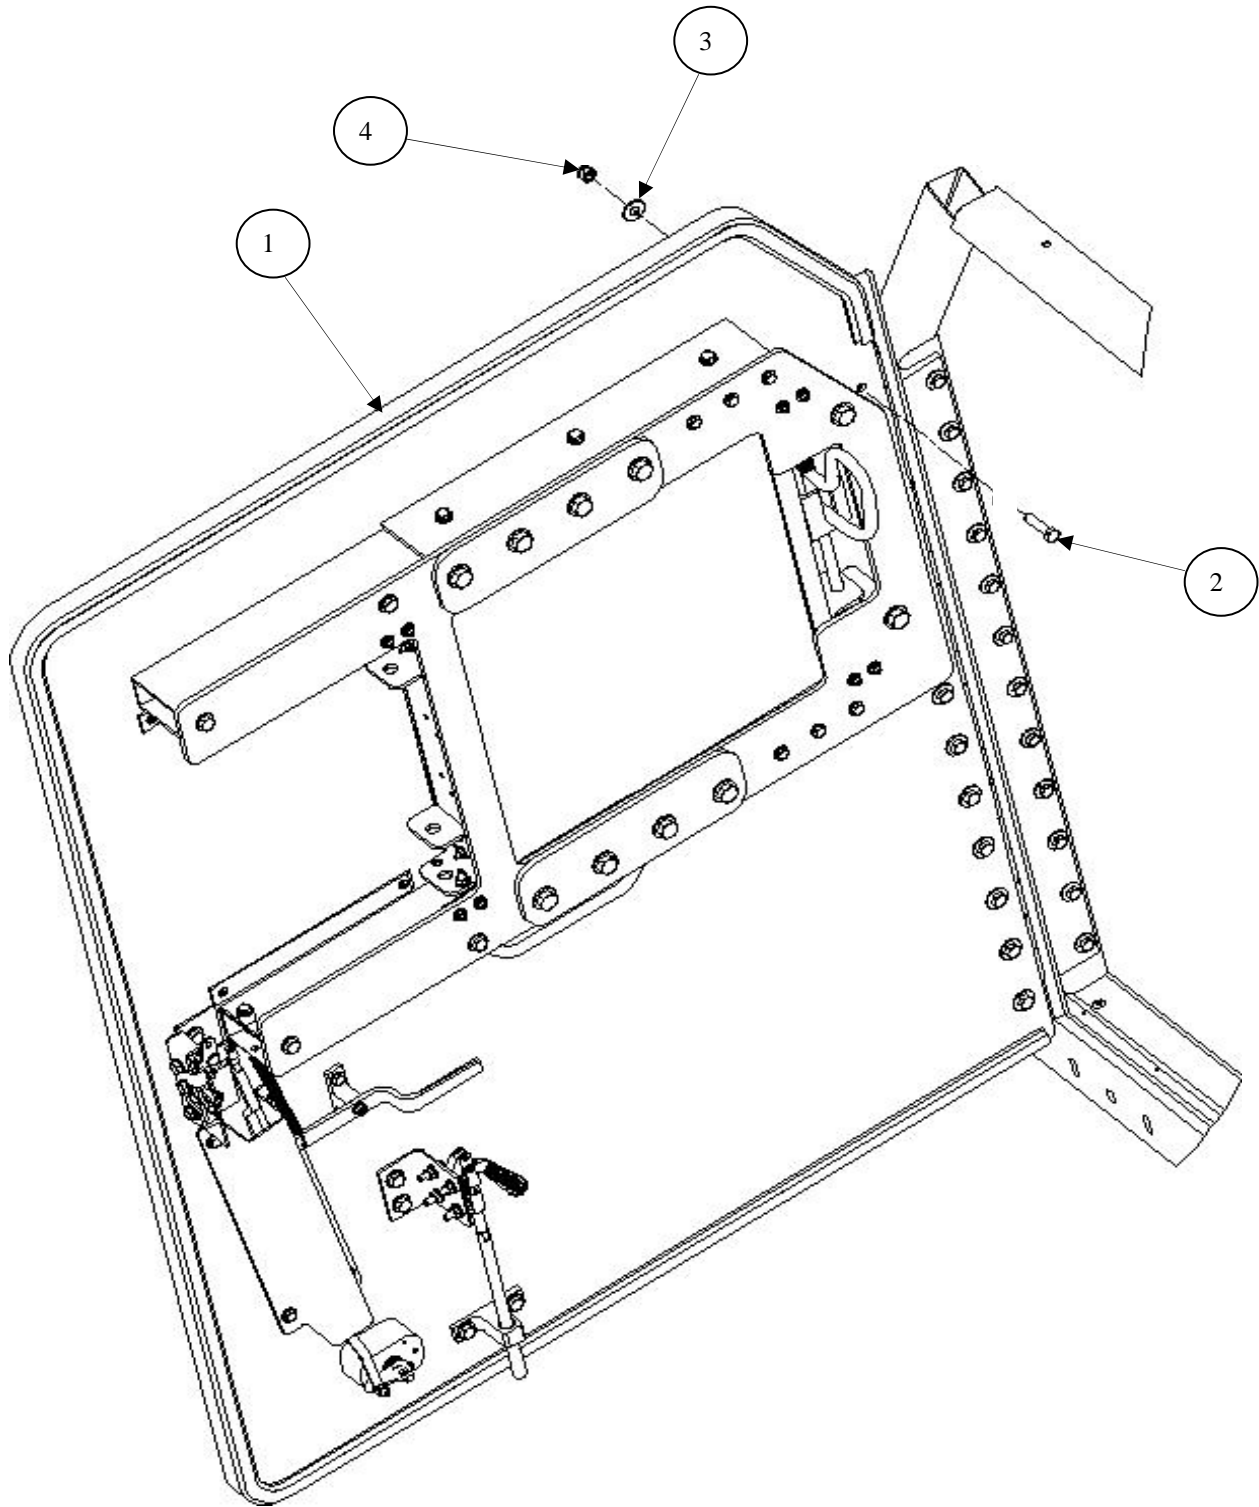

Figure 3-78. Door Installation.
2. Install doors as follows (see Figure 3-78):
- a. Using a forklift or other suitable lifting device, raise and align door (1) at a right angle to cab.
- b. Secure door (1) to hinge using 13 bolts (2), 13 flat washers (3), and 13 locknuts (4). Torque locknuts to 35 lb-ft.